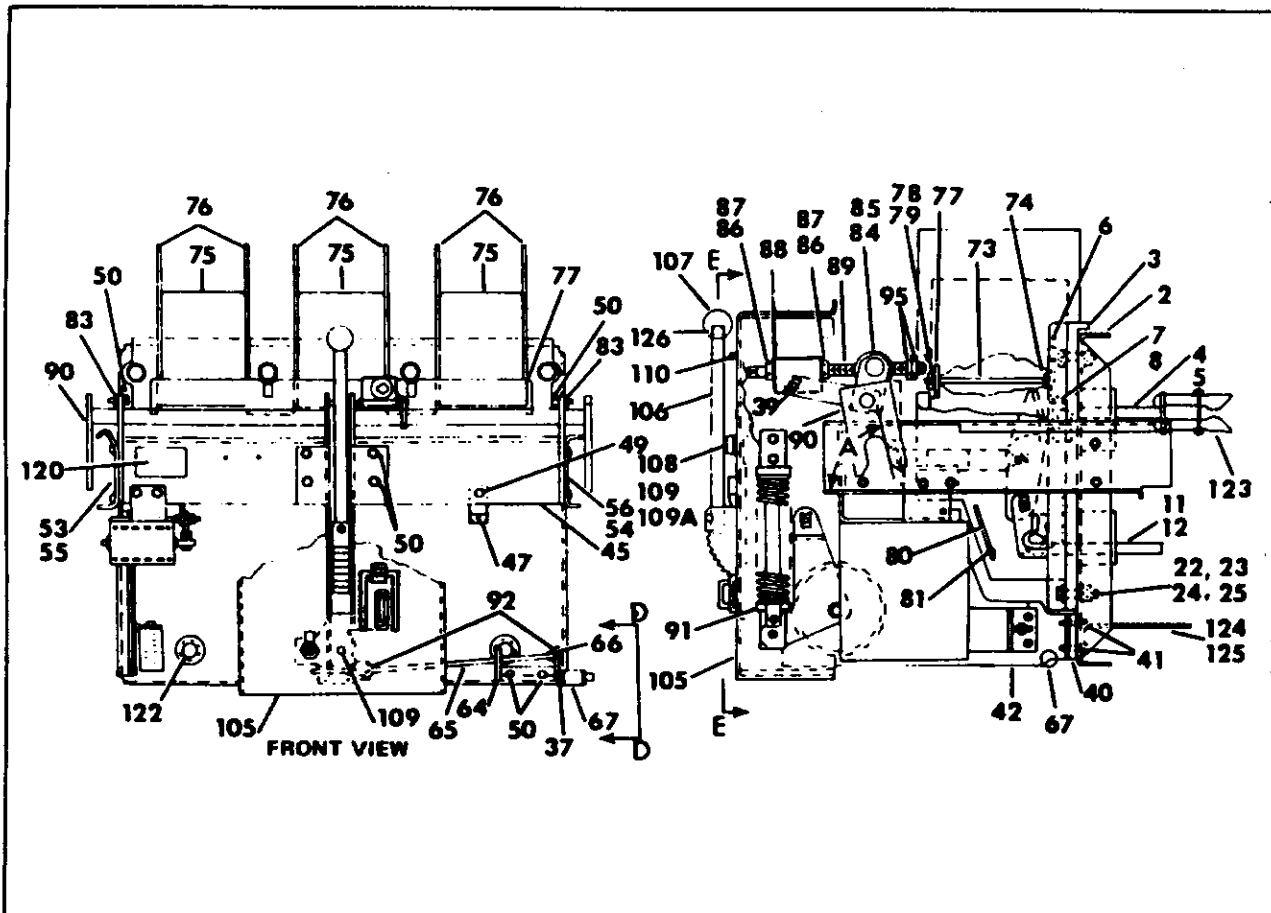

Figure 4. Typical LA-1600B Breaker Outline
4. Remove arc chutes (Figures 4 and 5, Item 75), and examine for burned, cracked or broken parts. To remove arc chutes, proceed as follows: